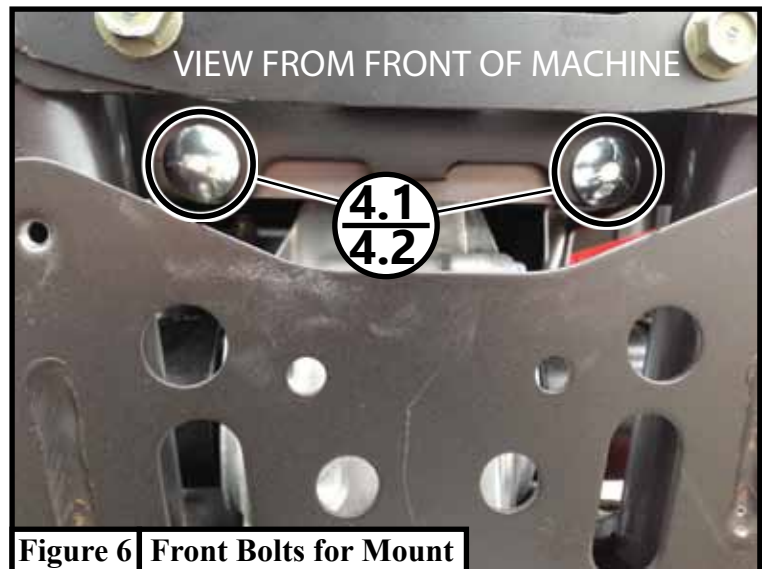

Figure 6 Front Bolts for Mount
7. Install the winch onto the Winch Mount (1) using only the rear-most mounting holes as shown in **Figure 6**. Ensure the front holes are aligned before tightening rear bolts according to your winch specifications.
6. Fasten the winch mount (1) to the front frame rail using the 3/8" carriage bolts (4.1) and 3/8" nuts (4.2) as shown in **Figure 6** with nuts to the inside so the carriage bolts sit in the square cutout. Some machines may not have the square cutouts to hold a carriage bolt. Use hardware (4.3 and 4.2) in these situations. Use the 3/8" (4.1) carriage bolts and 3/8" nuts (4.2) as shown in **Figure 7** with the bolt head inside the frame channel, for the rear holes.
8. If there is space between the frame and winch mount, refer to page 4 and use the washer and bolts. Depending on where the winch sits (too close on front or back side), you may need to place washers in front or behind the winch mount (1) to move the winch and mount forward or back to provide the clearance needed.